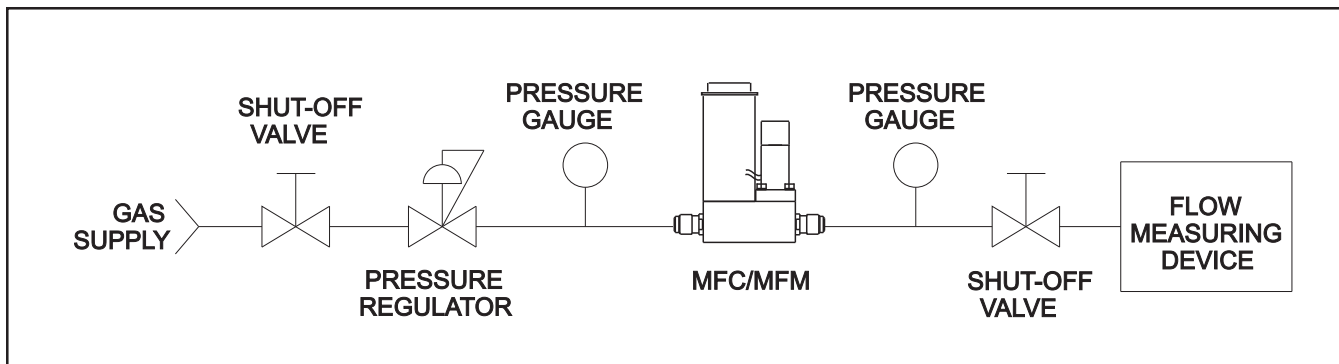

Figure 4-1 Bench Troubleshooting Circuit
1. Establish a proper connection between the Brooks SLAMf Digital Series Mass Flow Meter or Controller (using Figure 4-1 as a reference) Switch on the power and allow the instrument to warm-up for 45 minutes. In case of a Controller model, adjust the Setpoint to zero. Do not connect the device to a gas source yet. Observe the output signal and, if necessary, perform the zero adjustment procedure (See Section 3-4 zeroing function). If the output signal does not zero properly, please contact Brooks Instrument.